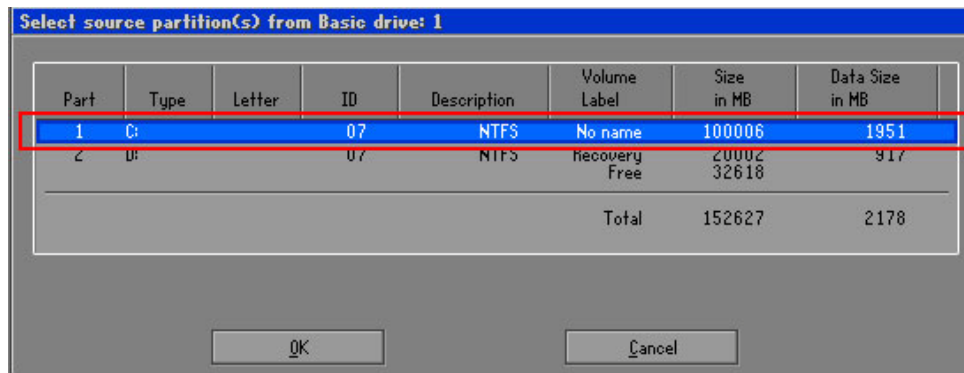

Figure C-15: Select a Source Partition from Basic Drive
Step 6: Select a source partition (Part 1) from basic drive as shown in **Figure C-15**. Then click OK.